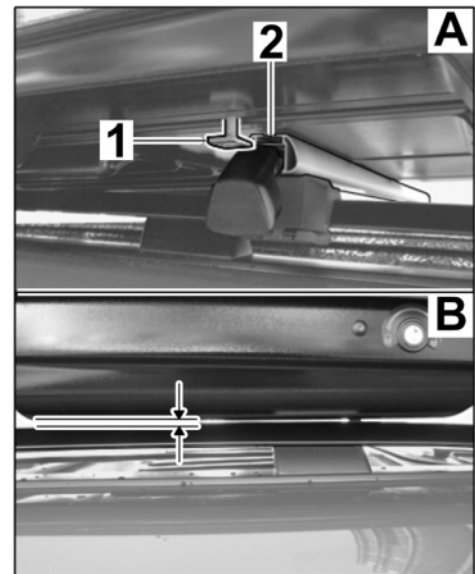

Figure 6
4.2 Open the cap of the roof transport system (front/rear) on this side (⇒ Driver's Manual, section on 'Roof Transport System') and fit roof box 520 on the roof transport system (⇒ *Figure 6*).
4.3 Check the position of the next sliding block (T-bolt, M8 x 55) with respect to the groove in the roof transport system carrier and align it as required (⇒ *Figure 6 -A-*).